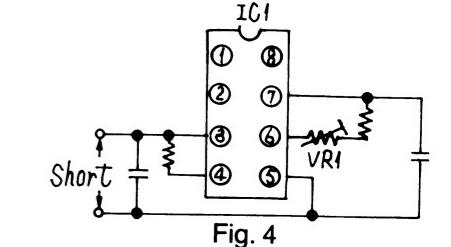

Fig. 4
- Short the IC1 (3) pin and IC1 (5) pin
- Adjust VR1 for 500±15 Hz on frequency counter reading (Refer to Fig. 4)